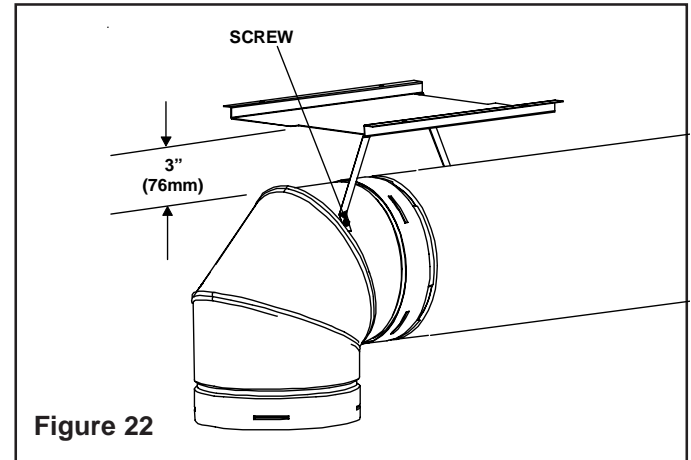

Figure 22
- If the combustible materials are not in place at the time of install the elbow heat shield may be screwed to the exhaust pipe (see Figure 22). Cut the tabs as shown and bend down. Secure the heat shield to the pipe maintaining 3" to 4" between the pipe and shield.